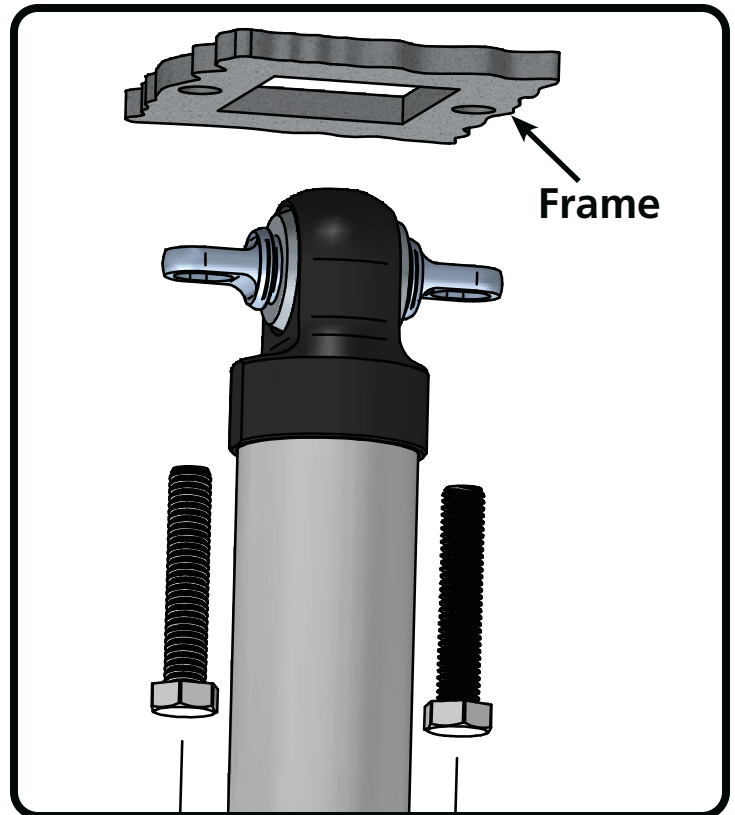

Figure 1
1. Attach the trunnion in the OEM Location using the OEM Hardware (Figure 1).